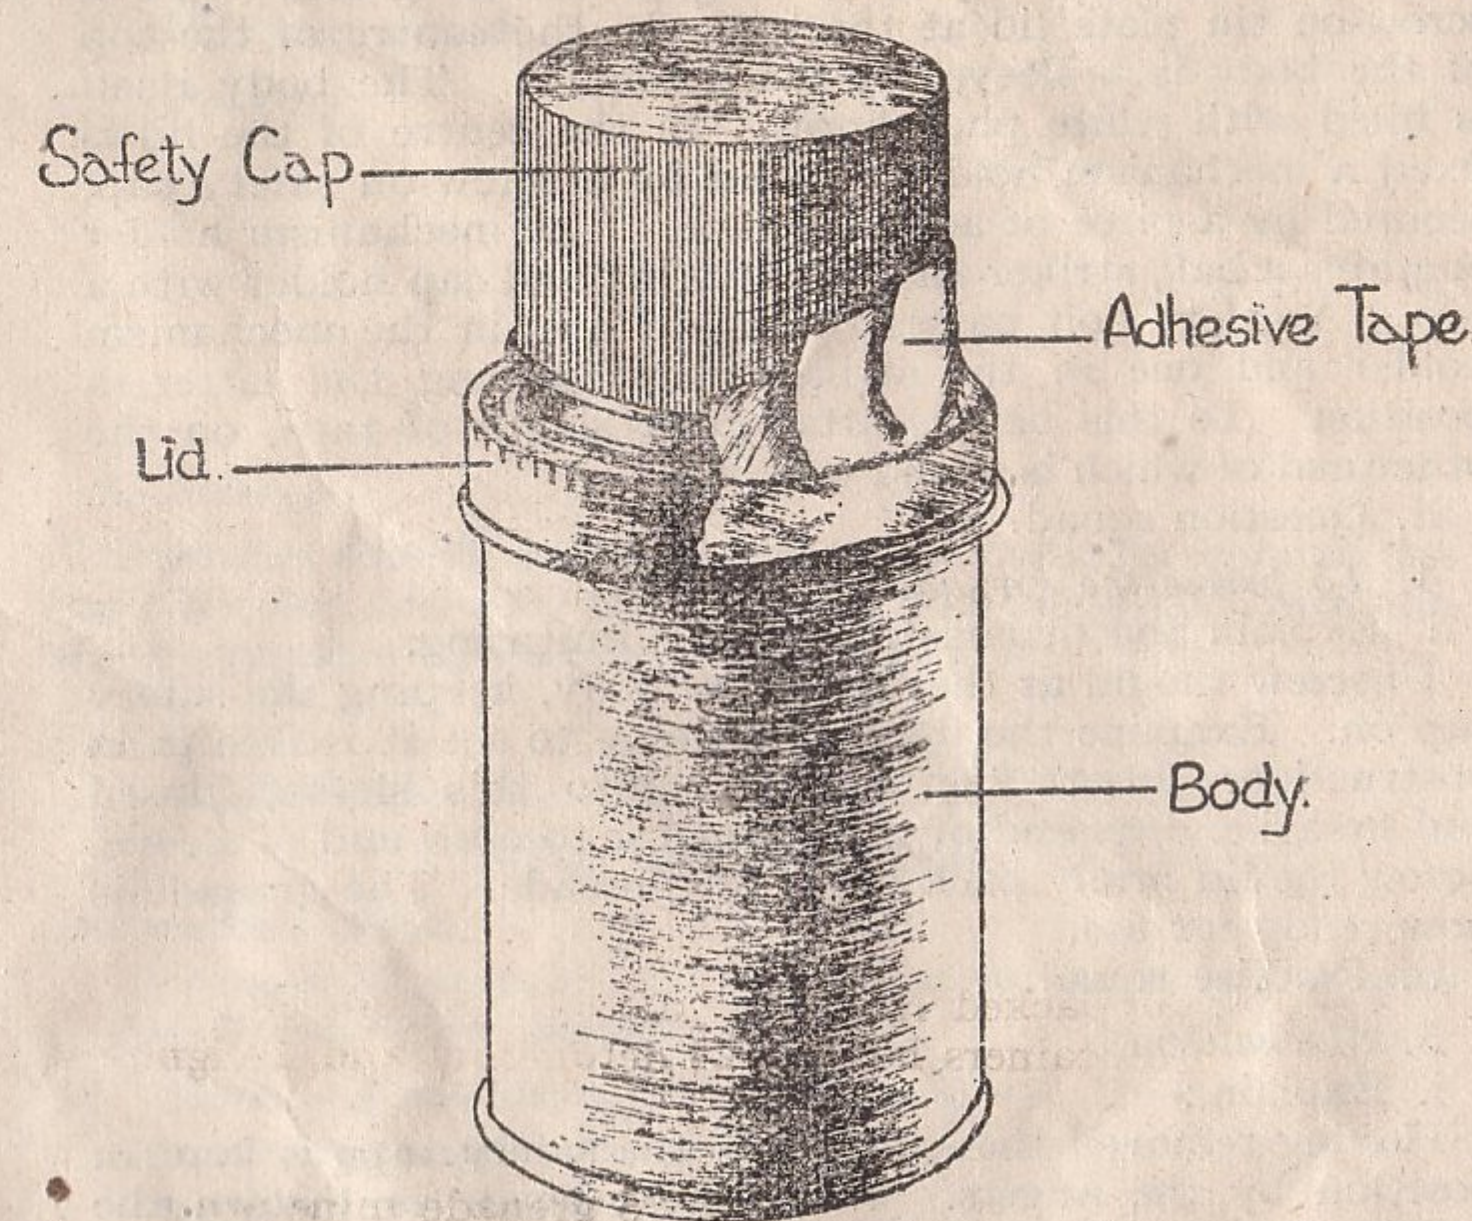

FIG. 19A
3. i. Explain and demonstrate (see Figs. 19A and 19B).